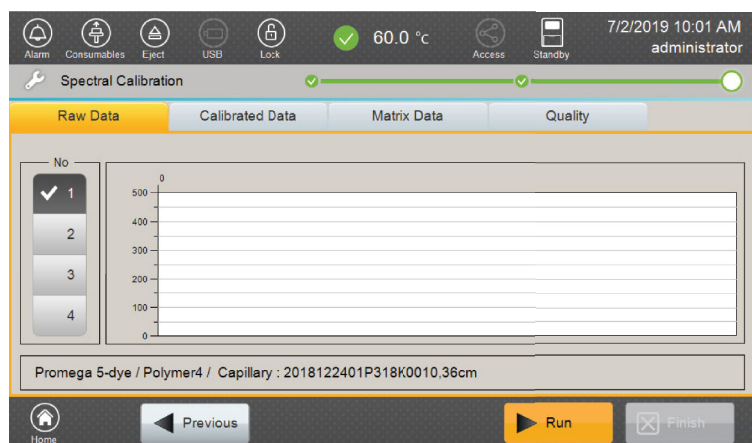

Figure 50. 'Spectral Calibration' screen.
9. After the autosampler has returned to its home position, the 'Spectral Calibration' screen will automatically be displayed (Figure 50). Select **Run** to start the spectral calibration. Spectral calibration runs take about 30 minutes, regardless of dye set or polymer type.
The completed spectral calibration can be reviewed from the 'Spectral Calibration' screen (Figure 50). There are four review tabs to choose from: Raw Data, Calibrated Data, Matrix Data and Quality.